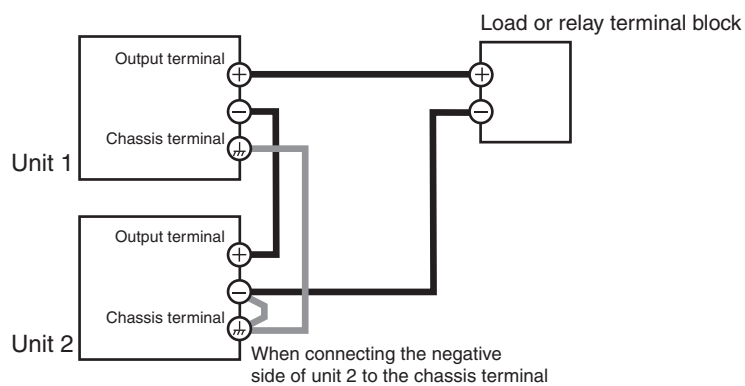

Fig.6-7 Load connection for series operation
- 3 As shown in Fig.6-7, connect the load and the PAT using the load wires. Use load cables with sufficient current capacity. Connect the load wires at the shortest length possible. If the voltage drop in the output cable is large, the difference in the potential between power supply units and the load effect become large.